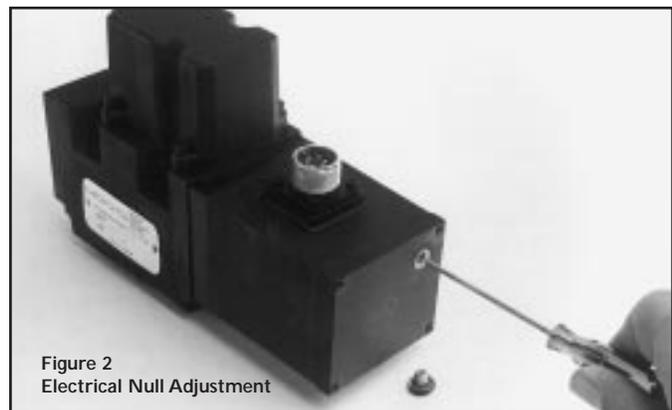

Figure 2
2. Using a flat blade screwdriver, remove the pan head screw (see Figure 2) to permit adjustment of the potentiometer.